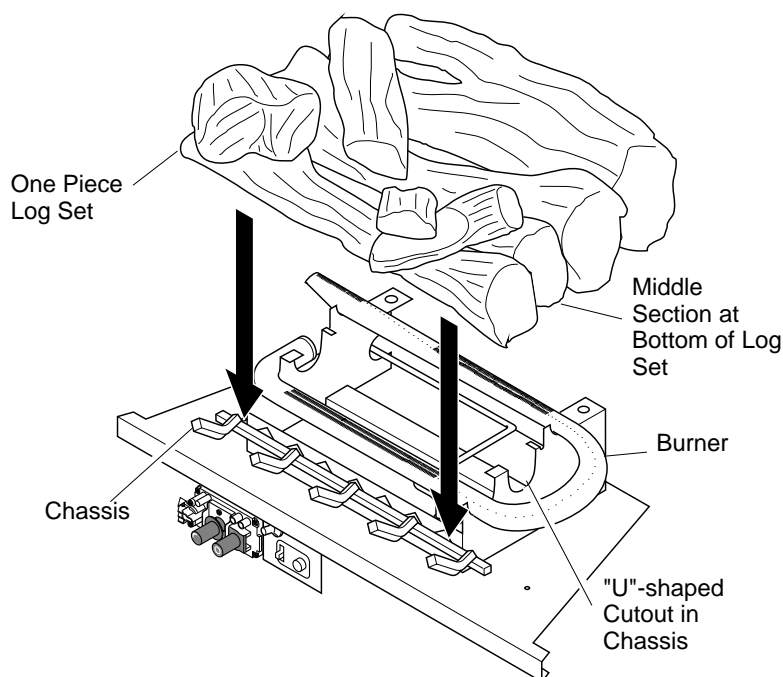
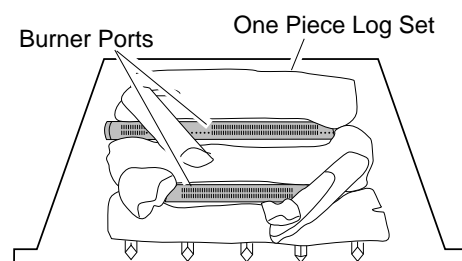

Figure 22 - Installing One Piece Log Set
Figure 23 - Installing One Piece Log Set (Top View)
1. Place one-piece log set on grate to fit as illustrated in Figure 22. Make sure middle section at bottom of log set is seated into "U"-shaped cutout in center of chassis (see Figure 23).